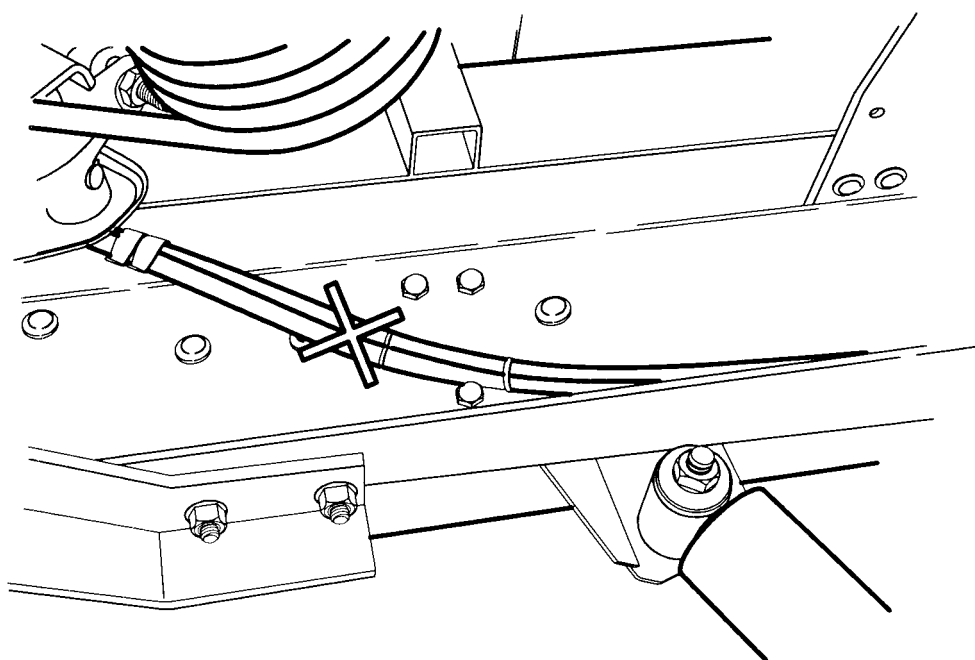

Fig 2 Recommended cutting point for existing pipe
9.1 Locate both Emergency supply (Red) and Control (Yellow) pipes (See Fig 2). Cut both flexible nylon pipes $\frac{3}{8}$ in. dia. Emergency supply (Red) and $\frac{1}{2}$ in. dia. Control (Yellow) and stagger by 100 mm (50mm each way) the cuts.